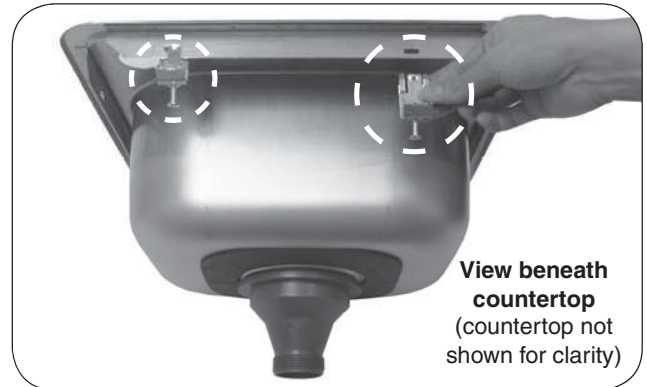

Fig. 3-1 Connect anchor clips to sink (below countertop)
2. From underneath the counter, connect the eight anchor clips to the punched tabs around the outside of the sink by snapping them into place as shown in Fig. 3-1.